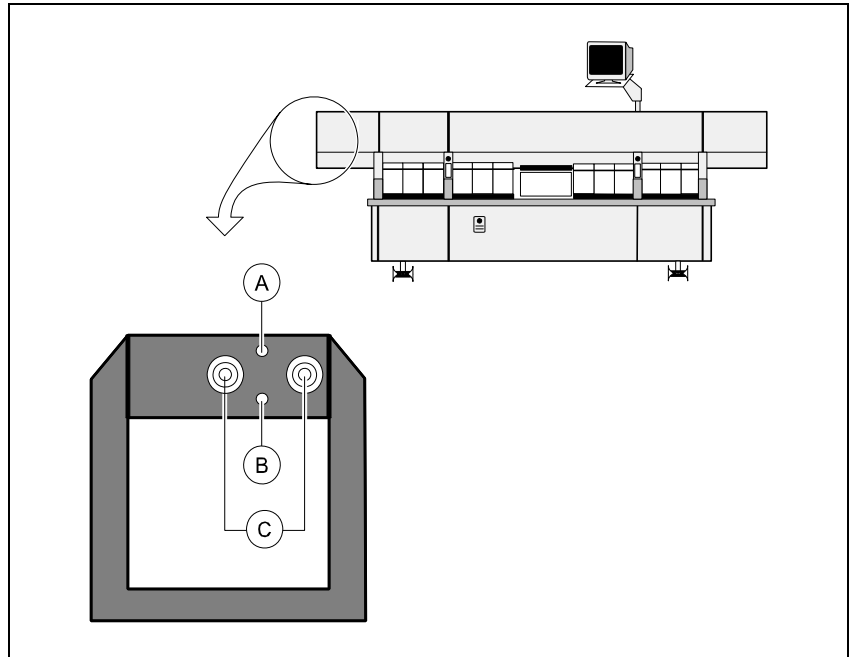

Figure 5-3. Adjusting X belt tension.
1. Loosen the A and B fixing screws, see Figure 5-3.
2. Adjust the belt by turning the screws marked 'C' in Figure 5-3 as follows:
3. Loosen the 'A' and 'B' fixing screws somewhat, see Figure 5-3.